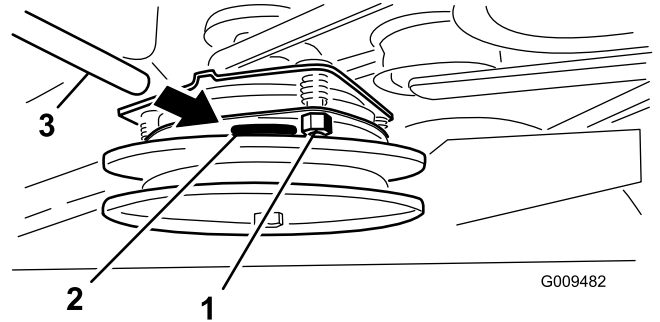

Figure 60
- If adjustment is needed, use a .015 inches (0.381 mm) feeler gauge to set each of the three adjustment slot positions. Tighten the lock nuts until there is slight binding on the feeler gauge but it can be moved easily within the air gap (Figure 60).